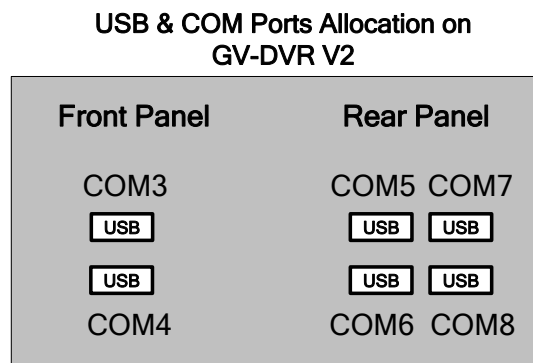

Figure 11-2
2. In the Port 1 field, modify the port number from the drop-down list. For the port allocation, refer to Figure 11-2.